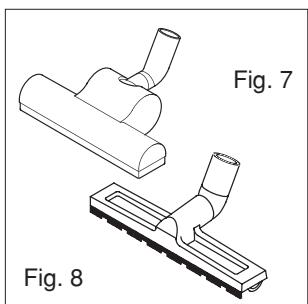

Fig. 7
- TTurbo Brush (Fig. 7): This is equipped with a rotating brush head and is thus ideally suited for the thoroughly deep cleaning of carpets.